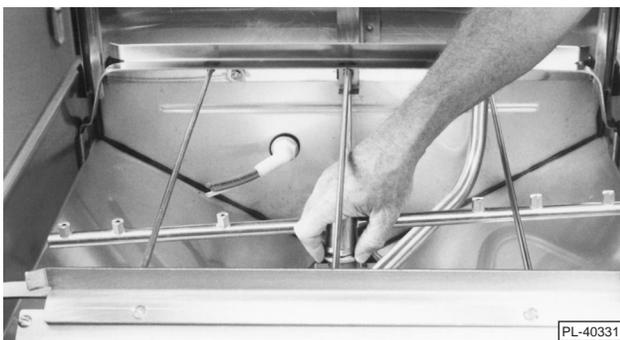

Fig. 19
1. Unscrew the knurled disks and remove the upper and lower wash / rinse arms (Fig. 19). Be careful not to drop the wash / rinse arms during removal, particularly the upper arm.